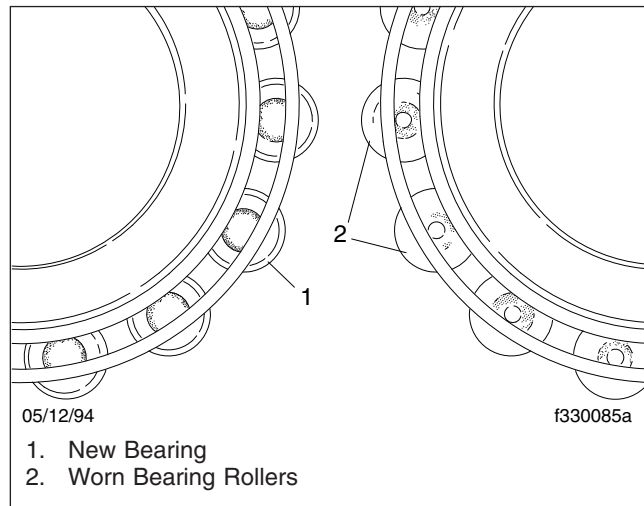

Fig. 4, Wheel Bearing Roller Wear
- Large ends of rollers worn flush to the recess, or radii at the large ends of the rollers worn sharp. These are indications of advanced wear. See Fig. 4.